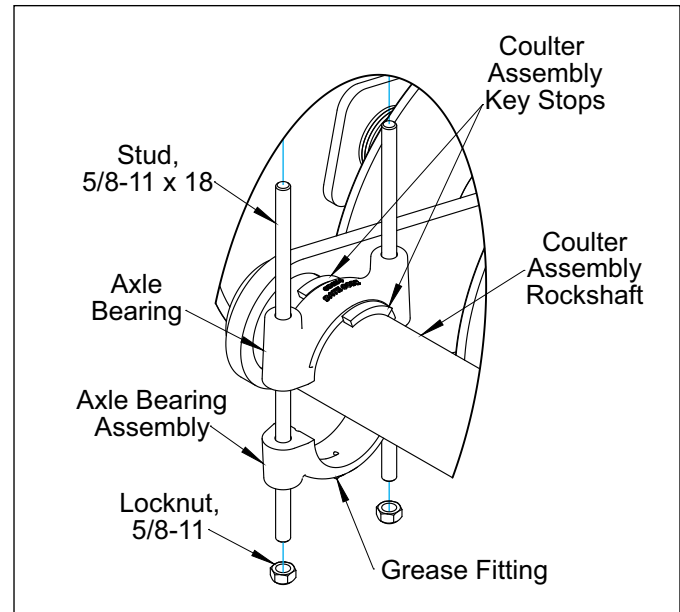

Figure 2-17: Hydraulic Coulter Gang Axle Bearing Installation
5. Mount Coulter Gang Assembly under the Front Frame by placing an Axle Bearing half without the grease fitting on top of the Coulter Gang Assembly Rockshaft ends, one Axle Bearing must be between the Key Stops. **See Figure 2-17.**